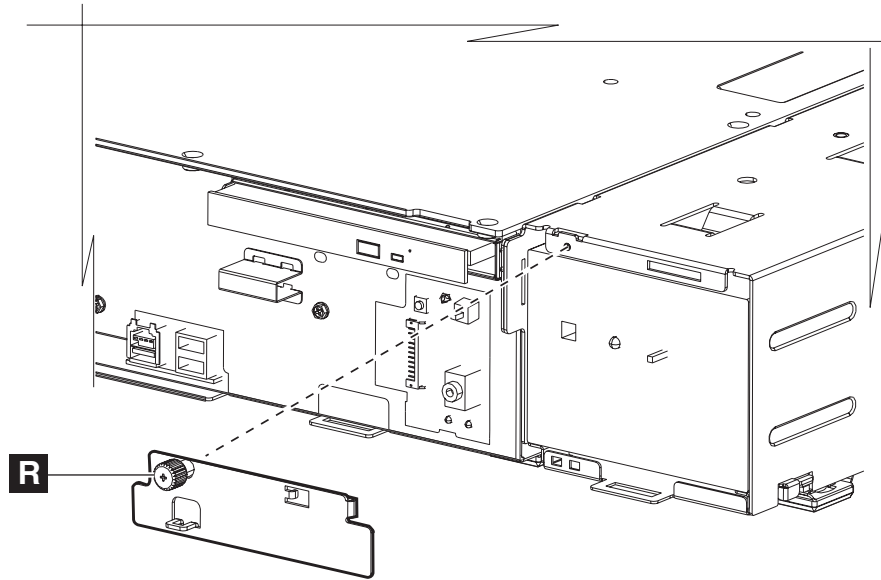

Figure 46. Power supply housing bracket
3. See Figure 46. Untighten the screw (**R**) on the UPS lock.